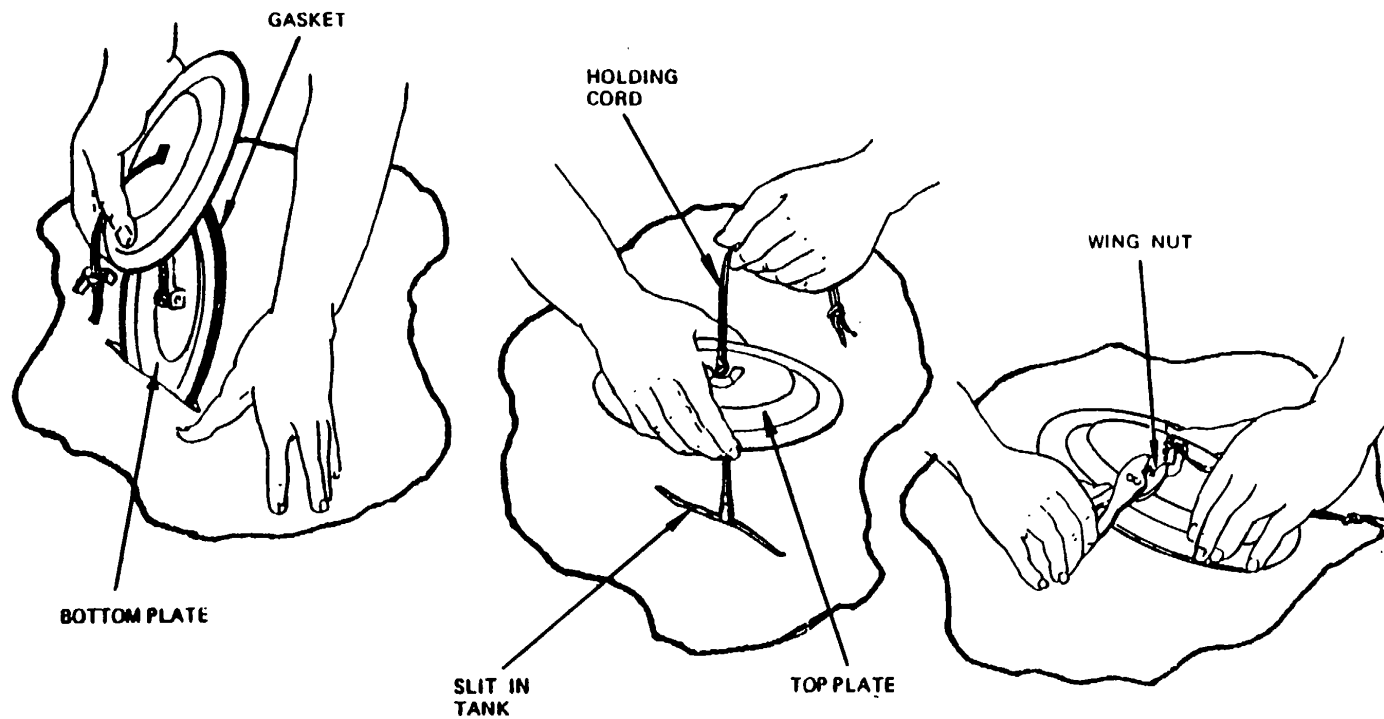

Figure 3-1. INSTALLATION OF SEALING CLAMPS
- (1) Small slits, tears or cuts (not to exceed 6* inches in length will be repaired with sealing clamps. (Fig. 3-1).
- (2) The size of the damaged tank area (opening) needing repair govern the size and applicability of the clamp to effect a tank repair. The following criteria is furnished as guidance in selection of appropriate size clamp:
- (3) It may be necessary to increase the size of the tears slightly with a pocket knife in order to be able to insert the bottom plate of the sealing clamp.
- (4) Slip the bottom plate of the sealing clamp through the hole or tear and rotate it until it is centered and parallel to the tear.
- (5) Center the top plate of the sealing clamp on the threaded shank and directly over the bottom plate.